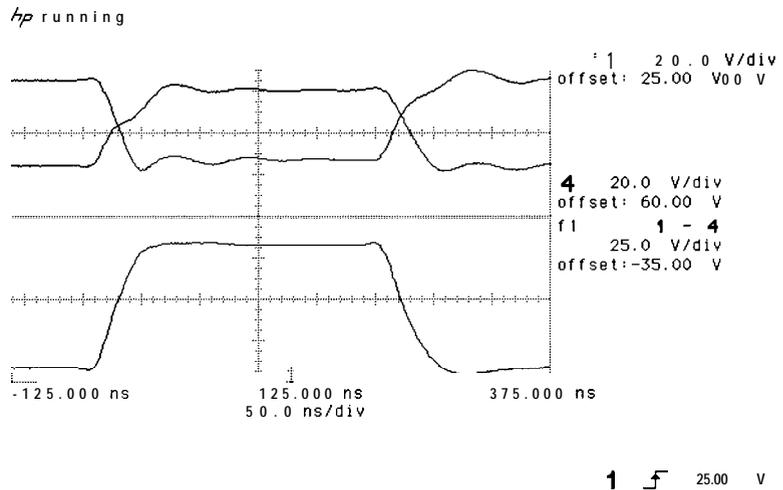

Figure 3-27. Composite X Deflection Waveform
16. Three waveforms should be displayed on the oscilloscope, as shown in Figure 3-27. The lower composite waveform represents